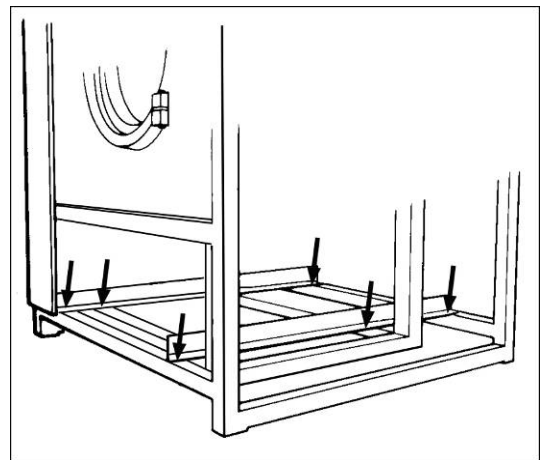

Fig. 2.7
- Locate on the chassis base the two yellow fixing profiles and dismantle them. The profiles are secured with screws (**Fig. 2.7**).